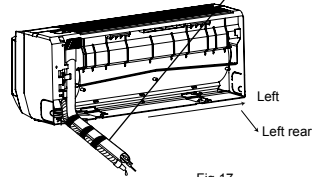

Fig.17
(2) Take out the piping from body case, wrap the piping electric wire, water pipe with tape and pull them through the piping hole (As show in Fig.17)